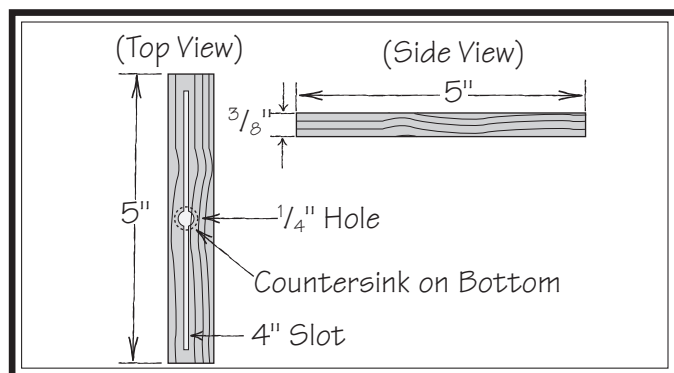

Figure 85. Miter bar pattern.
5. Cut a miter bar approximately 5" long that will fit in table miter slot, as shown in **Figure 85**.